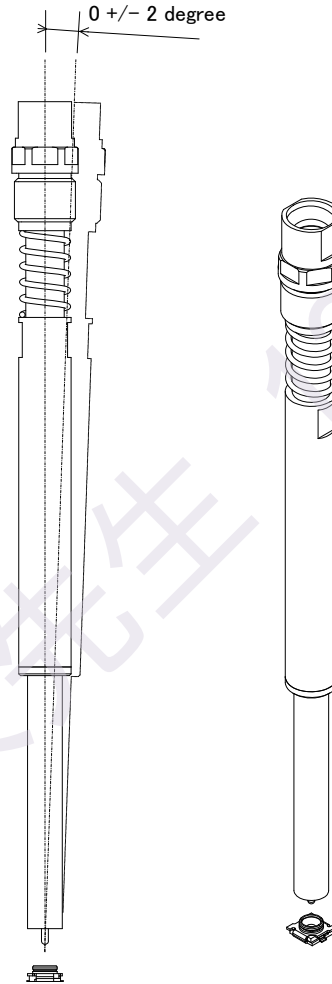

Figure.4 Probe Shape Operation Manual for Auto Measurement probe (MM206411)
3.3 The slant angle tolerance of probe against SWG type Receptacle. (Figure 4)